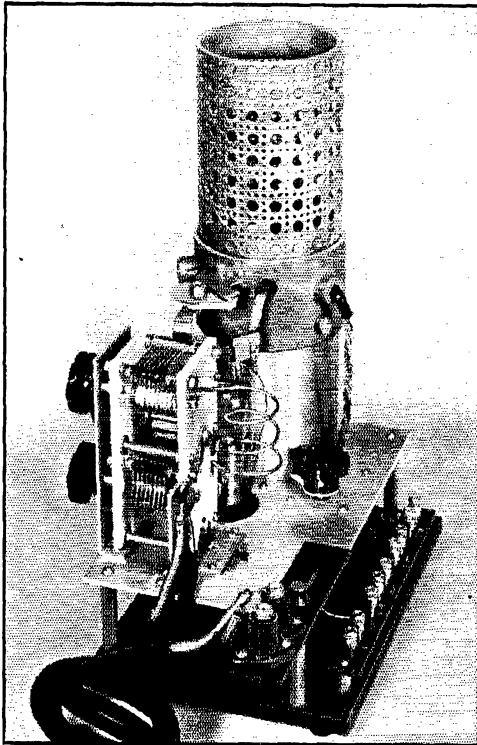

Fig. 10 — This view of the 5-meter transmitter shows more clearly the transmission line arrangement for producing the balanced output.
- L₅—Amplifier plate coil, three turns No. 12, as shown in Fig. 10.
In the schematic diagram of Fig. 5 most of the by-pass condensers are represented by a short line directly above and parallel to the ground plane. This representation is used to indicate that each of these condensers is formed by clamping thin mica sheets between a metal plate or a wide copper strip and the grounded metal chassis. The copper strip is held with the aid of a top metal ground plate that fastens to the chassis and is insulated from the copper strip by mica. One of these condensers is shown clearly in Fig. 10. It can be seen in back of and connected to the lower amplifier tuning condenser. These built-up condensers are only of value if they are placed at the point that needs by-passing and if short wide strips are used for their connections.